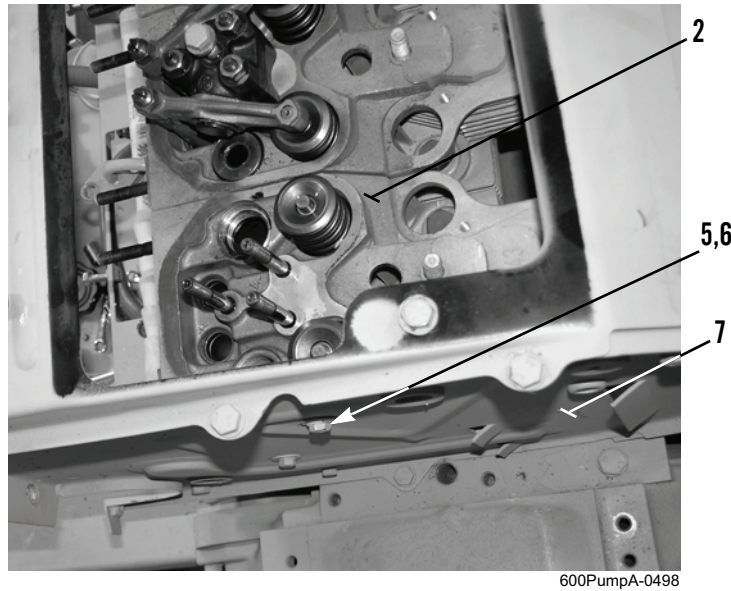

Figure 4. Cylinder Head and Rear Air Duct Wall.
4. If removing rearmost cylinder head (Figure 4, Item 2), remove bolt (Figure 4, Item 5) and washer (Figure 4, Item 6) from rear air duct wall (Figure 4, Item 7) and cylinder head.
5. If removing frontmost cylinder head (Figure 4, Item 2), remove torx head screw (Figure 5, Item 9) from crankcase breather bracket (Figure 5, Item 8), front air duct wall (Figure 5, Item 10), and cylinder lead.